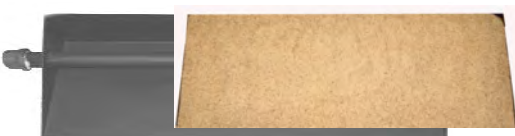

Figure 7.3 Sand Placement
2. Level the sand from side to side to ensure an even flame pattern. At this point the pans should be full. See Figure 7.3.